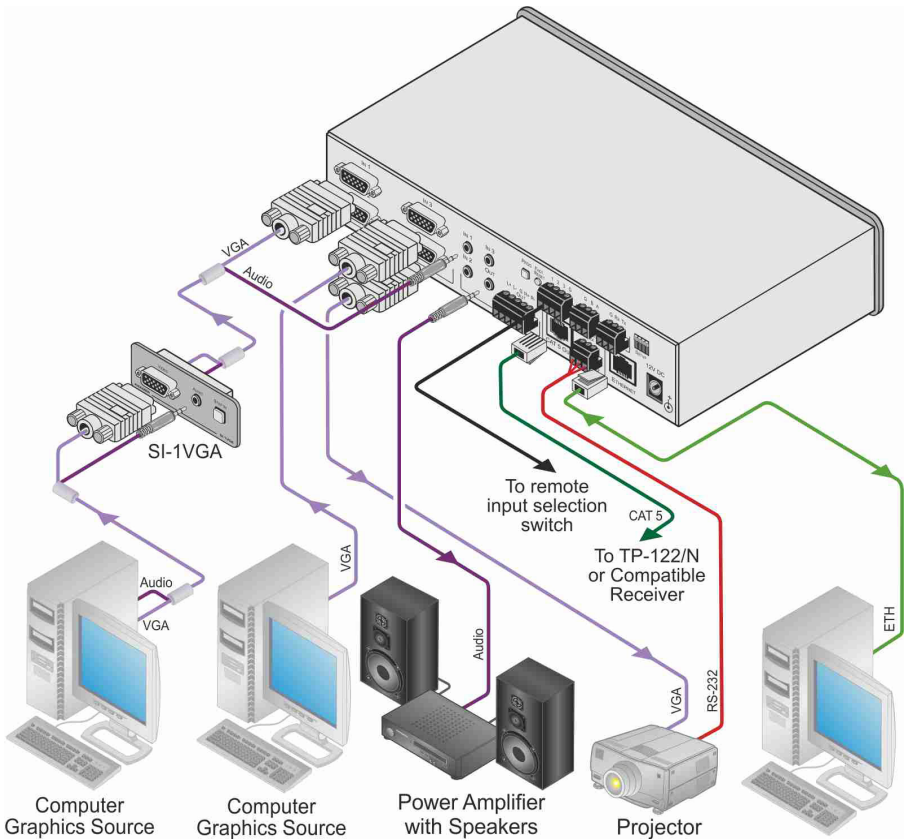

Figure 3: Connecting the VP-31KSi
To connect¹ the VP-31KSi, as illustrated in the example in Figure 3:
- the balanced audio 5-pin terminal block (see Section 5.1) to an audio acceptor (not shown in Figure 3)